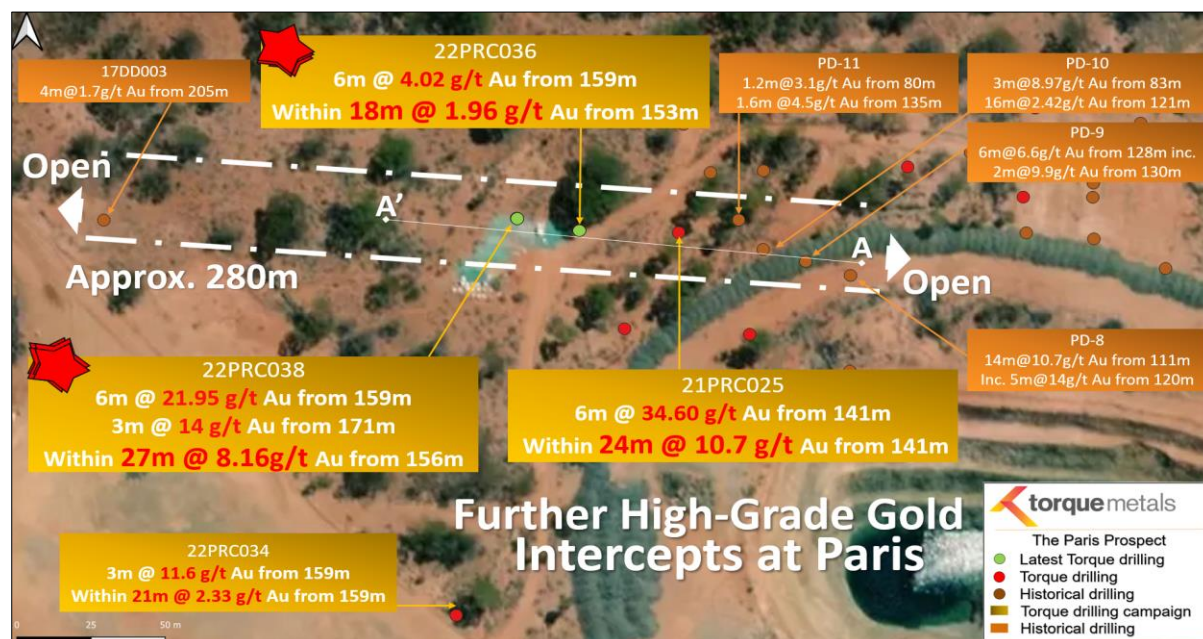

Figure 1: Wide High-grade continues at "Paris" prospect
- The Paris high grade zone now has a strike length of +120m. It is open to the North West, southeast and at depth with earlier drilling indicating the potential for the North West strike length to be greater than 280m (figure 1)